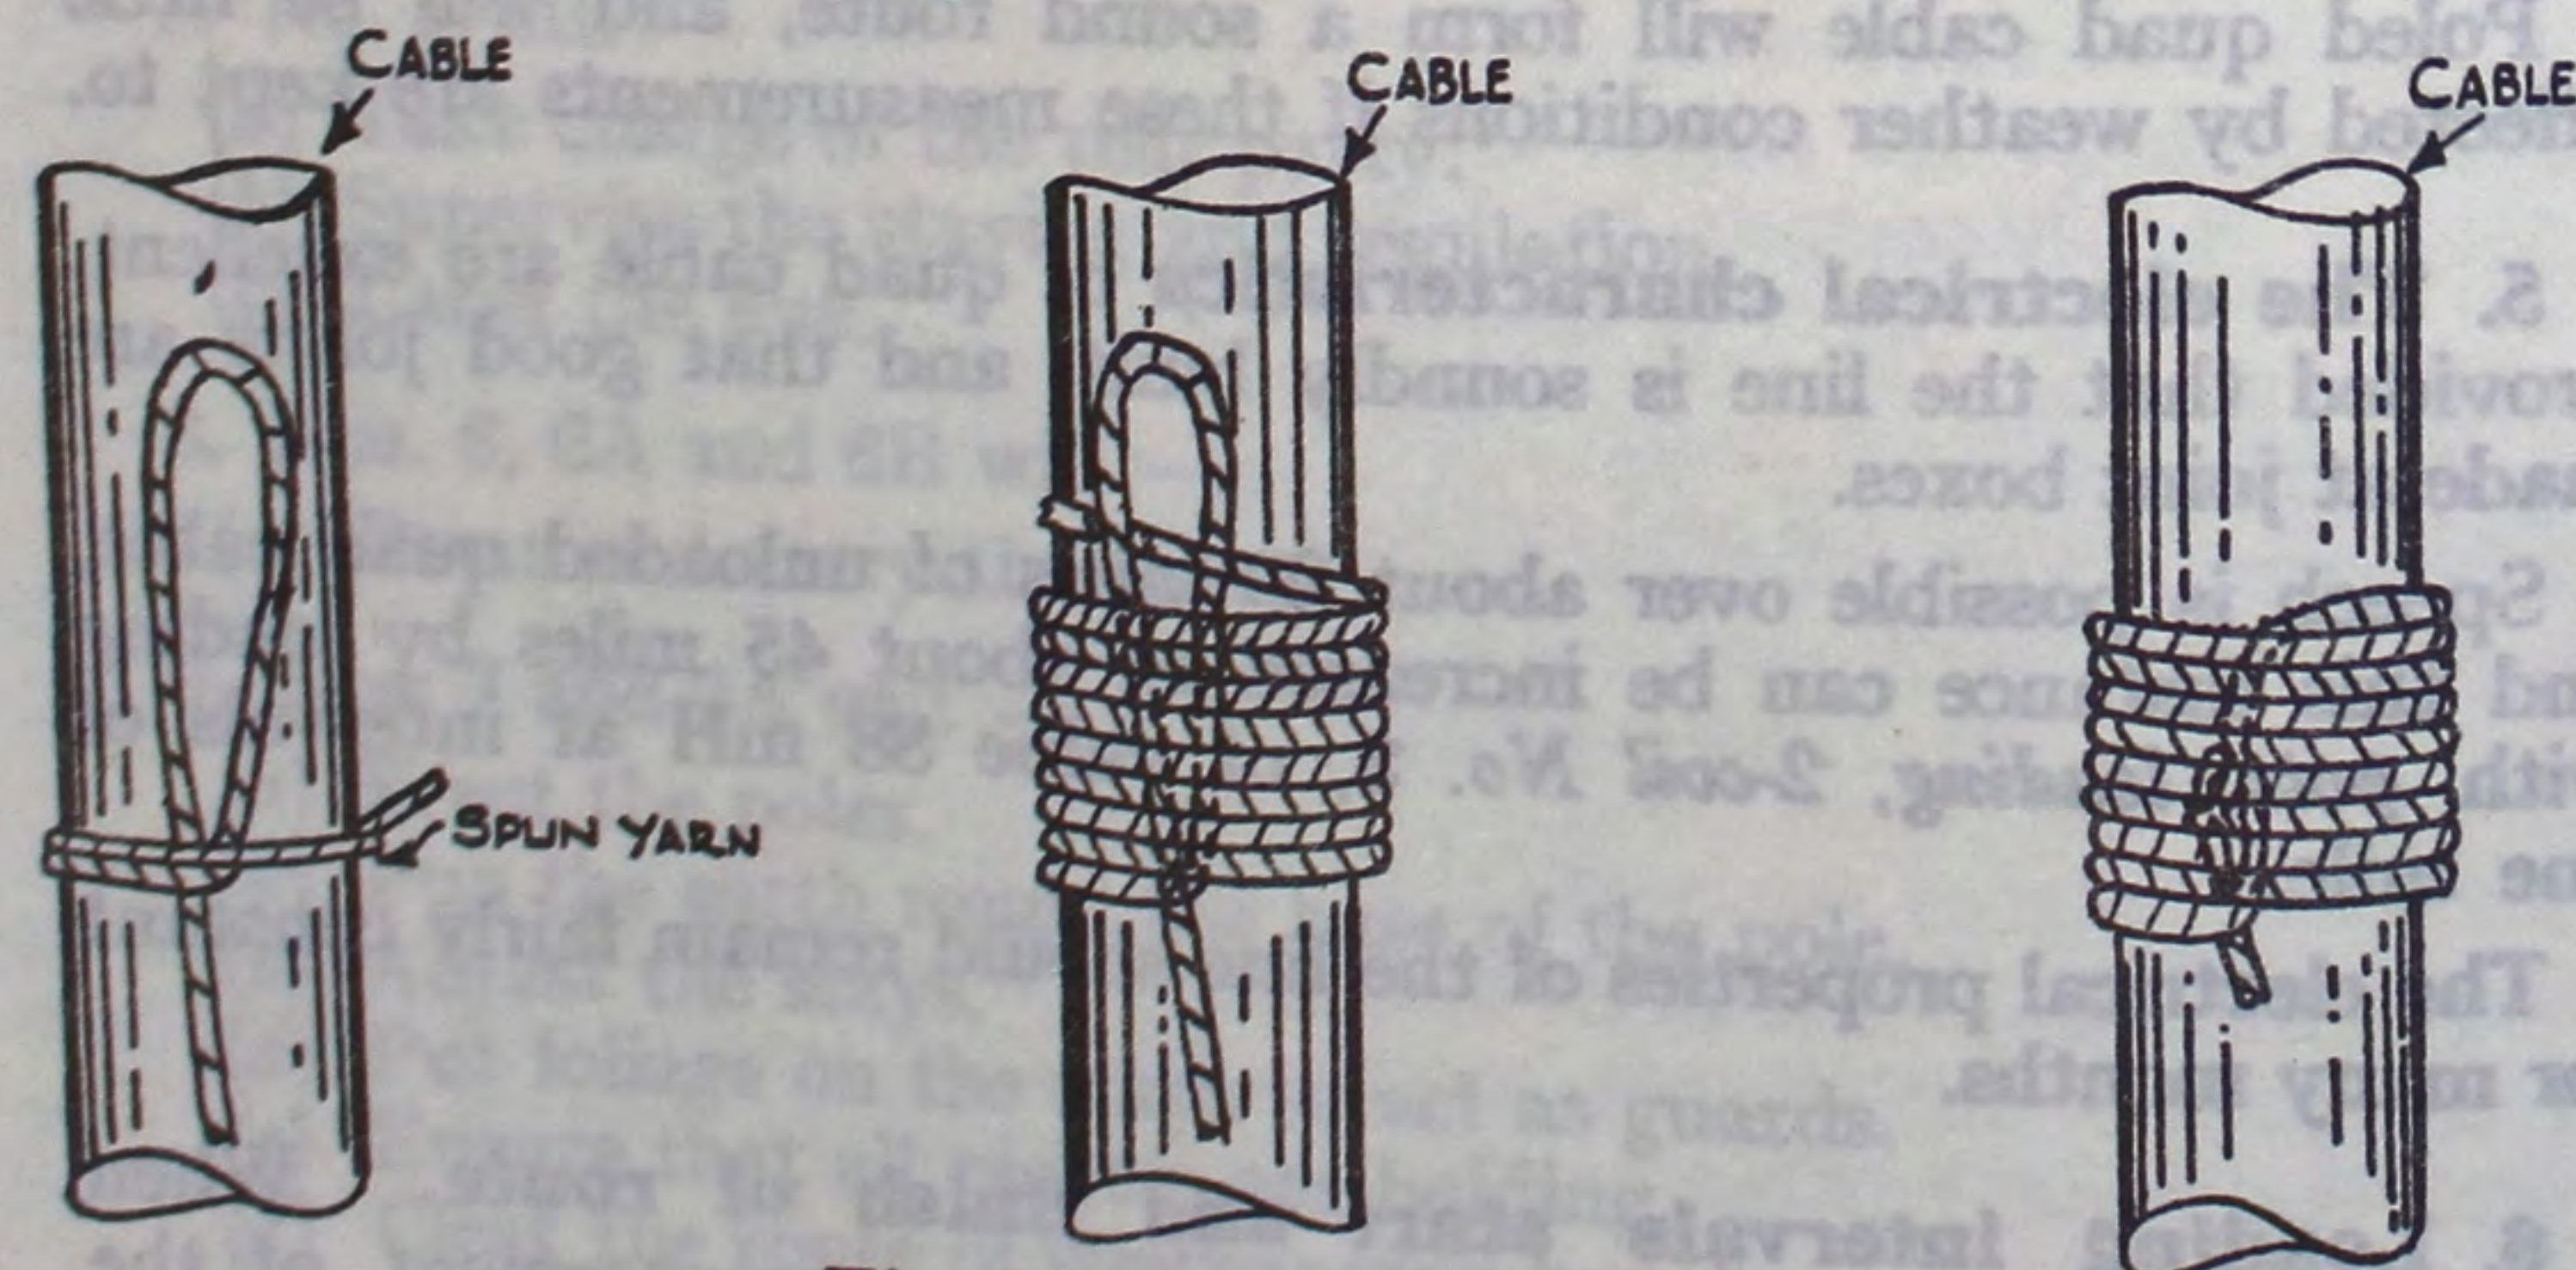

Fig 7.—Spunyarn chafer.
3. **Spunyarn chafers.**—When the cable is supported by bobbins the insulation must be protected from damage due to friction at the point of support. This is done by placing a spunyarn chafer (see Fig 7) on the cable, as follows:—